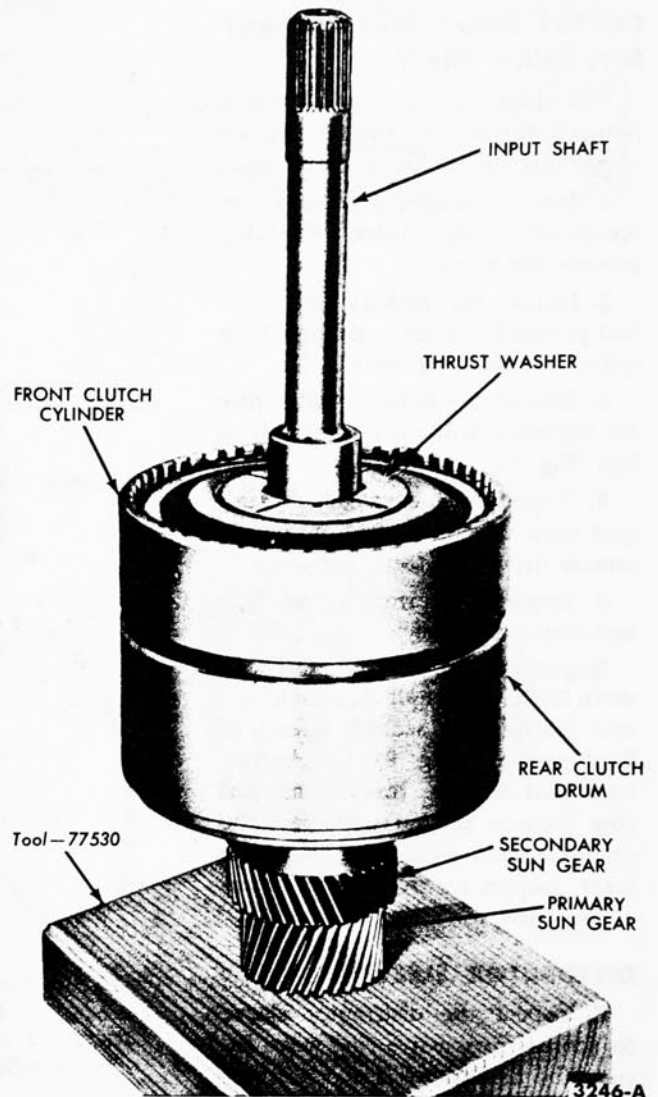

FIG. 7—Input Shaft, Clutches and Primary Sun Gear
17. Install the clutch assemblies in the bench fixture (Fig. 7).